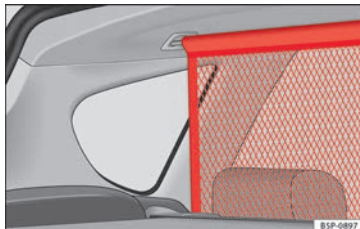

Fig. 107 Separation net.
- Pull the net from underneath between the backrest and the folding tray and fit it to the slots in the roof, first the right then the left » **Fig. 107.**